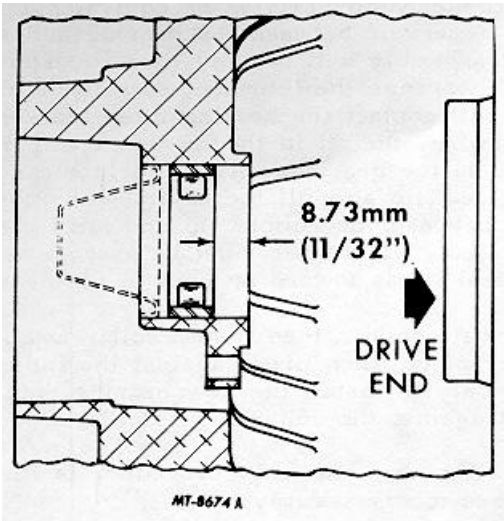

Fig. 19. Bearing Location
3. Push against the race only to install the new bearing to the dimension shown in Figure 19. To facilitate the installation, heat the end frame in an oven to 93 to 149 C (200 to 300 F). This will not damage the regulator.